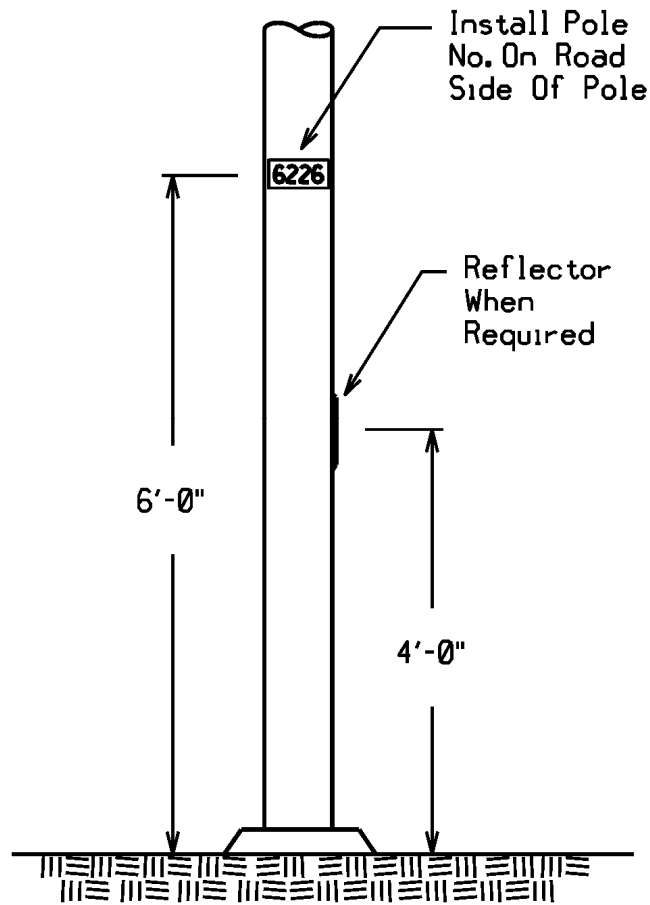

Figure 11 – Pole Numbering - Underground Supplied Customer Owned Lighting
1. Every underground supplied customer lighting pole shall be numbered in accordance with Figure 11.
3. Pole number decals shall be installed horizontal to each other as shown in Figure 11 – not vertical.